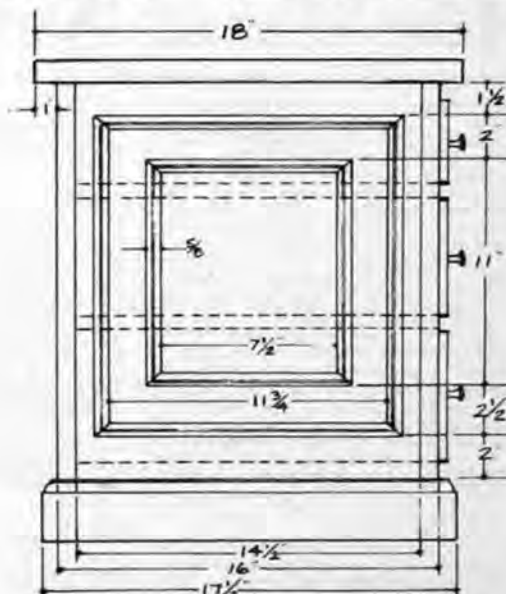

FIG. 3 END VIEW
First the maze itself has to be either picked from the examples or designed if you want to make up your own. Figure 3 shows five suggested types. Each depicts some concept which can be used to make the maze more difficult. The first (A), is a simple maze which requires the operator to tilt the box back and forth for the marble to pass through.